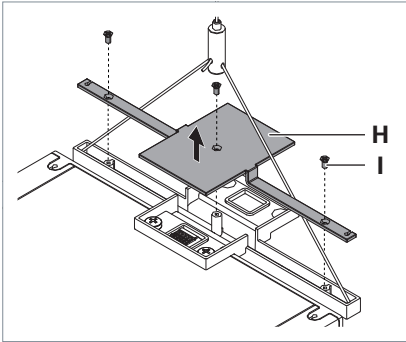

Fig. 13: Removing the cover.
- ▶ Unscrew three screws **I** from the cover **H** on the connecting element of the last mounted luminaire, see Fig. 13.